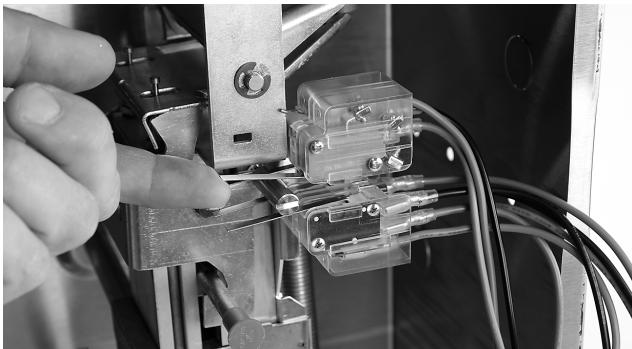

FIGURE 6
10. Test switch actuation and function. If necessary, bend switch lever to achieve proper switch actuation. See Figure 6.